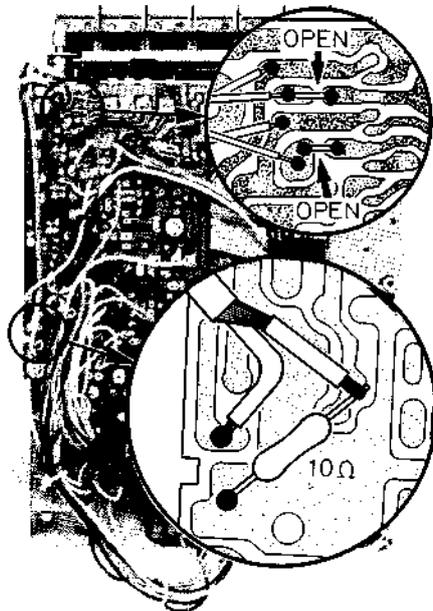

Fig. 14
1. Desolder the copper shield of the signal cable from the erasing head and solder a  $10\Omega$  resistor between the copper shield and the printed circuit board (Refer to Fig. 14).
1. Open the circuit by desoldering 2 jumping wires on the conductor side of the printed circuit board (Refer to Fig. 14).
4. Short the circuit by soldering 2 jumping wires on the conductor side of the printed circuit board (Refer to Fig. 14).